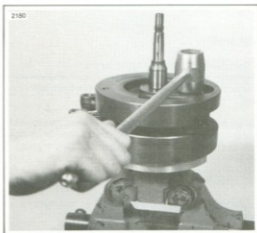
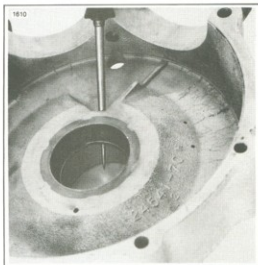

Figure 3-45. Removing Crank Pin Nut
Figure 3-47. Removing Lock Ring
- If left main bearing is to be replaced, press out bearing races (11 and 13) from opposite sides of crankcase hole, using CRANKSHAFT BEARING REMOVAL & INSTALLATION TOOL, Part No. HD-94547-80. If bearing set is being replaced, remove lock ring (12) using a pin punch or similar tool. Rotate lock ring in groove so that one edge covers oil hole. Insert tool into oil hole with tapered end underneath lock ring. Tap on tool to force one end out of groove as shown in Figure 3-47. Starting at this free end, push ring out of bearing bore.
1. Place flywheels in flywheel holding fixture and remove crank pin nut using FLYWHEEL NUT WRENCH, Part No. HD-94546-41, as shown in Figure 3-45. To loosen flywheel, strike right flywheel rim with soft metal mallet at 90 degrees to crankpin. Remove right flywheel and gear shaft assembly. Remove crank pin key (11, Figure 3-45).
2. Hold down bearing assembly with a short length of pipe or tubing so connecting rods (3) may be slipped off bearings. Remove bearings (4). Hold together in set until bearings are washed and re-fitted to crank pin.
3. Refer to Figure 3-47. Using 1-5/8 in. socket, Snap-On Part No. S6202, remove sprocket shaft nut (12). Press sprocket shaft (13) out of flywheel.
4. Turn flywheel over in fixture and remove crank pin nut (1). Press crank pin out of flywheel.
5. Place pinion shaft and flywheel in fixture and remove pinion shaft nut (5). Press pinion shaft (7) out of flywheel and remove key (8) from shaft.